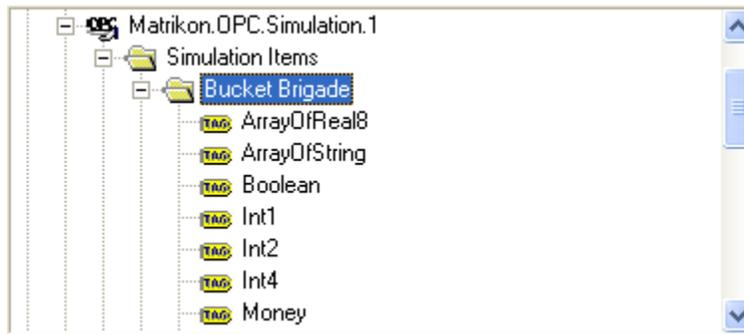

Figure 23 - Simulated Data Points in MatrikonOPC Server for Simulation and Testing
3. Select and expand the **Simulation Items** folder, followed by the **Bucket Brigade** folder which displays numerous tags (Figure 23).